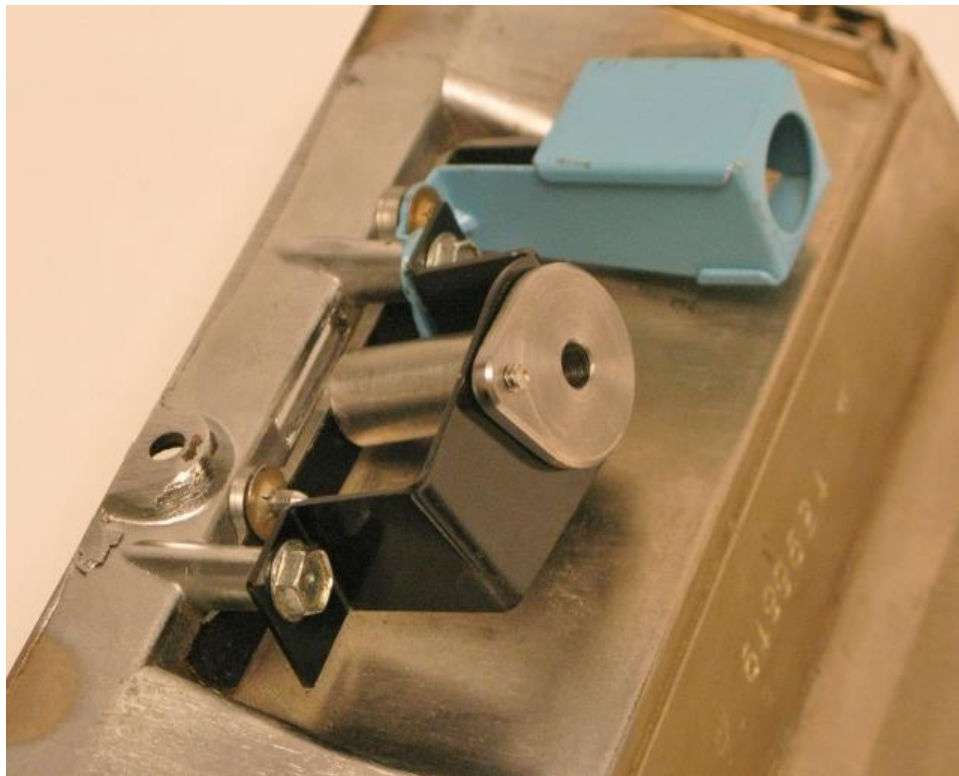

Figure 5 – Install Drill Guide
10. Place the drill guide into the wiper switch adapter and hold in place with the provided 6-32 x 1/2" L button head cap screw (Figure 5).